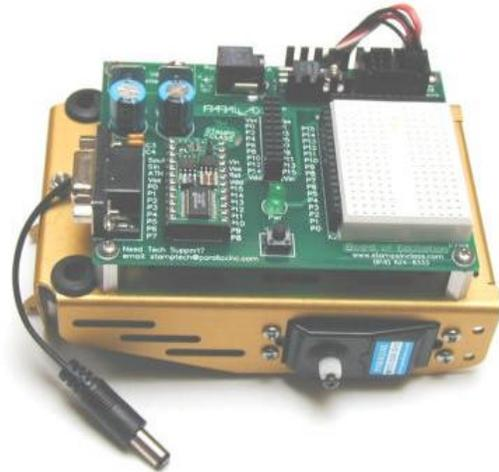

Figure 1.14: BOE attached to chassis.
Figure 1.14 shows the Board of education attached to the Boe-Bot chassis with the servos plugged into the servo ports.
- Plug the servo that you can see in Figure 1.14 into servo port 12, and plug the other servo into servo port 13.